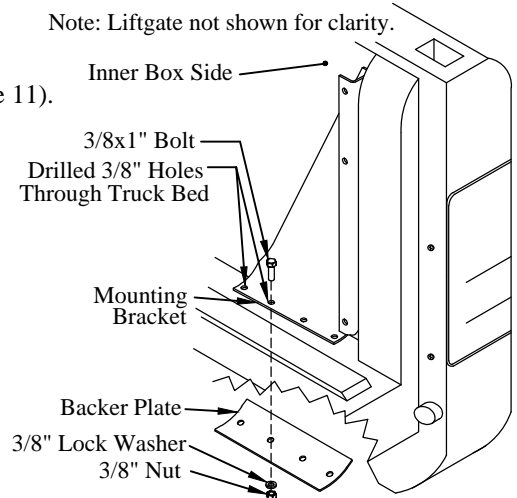

Figure 11: Mounting bracket and backer plate.
7. **Drill** two (2) 3/8" holes into the truck bed floor using two holes in the bracket as a guide. Choose two of the four holes provided with no obstructions on the underside (Figure 11).
- (2) 3/8"x1" hex head bolts on the top-side (Figure 11).
- (1) backer plate, (2) lock washers, and (2) hex nuts on the under-side (Figure 11).